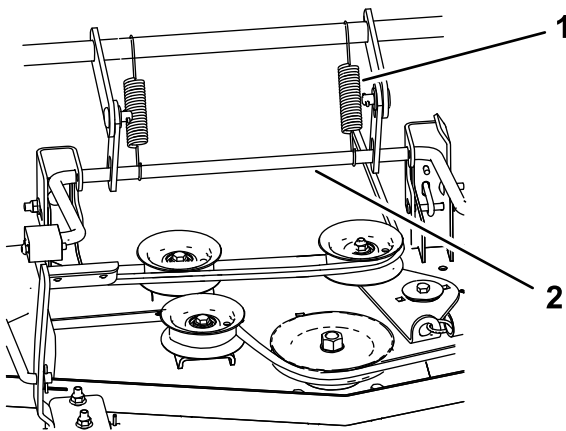

Figure 65
6. For 60-inch decks, install the 2 deck-lift springs (Figure 65).